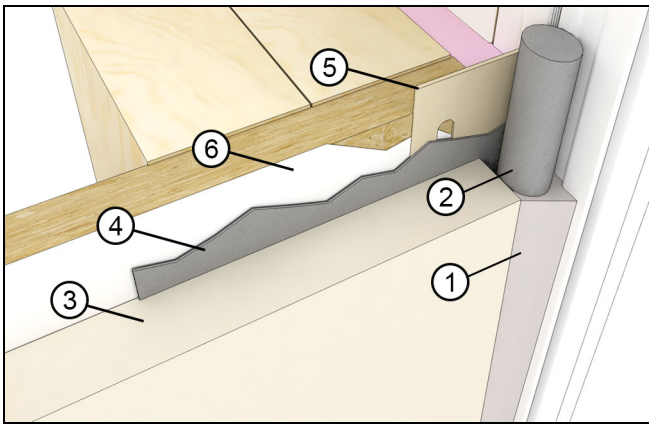
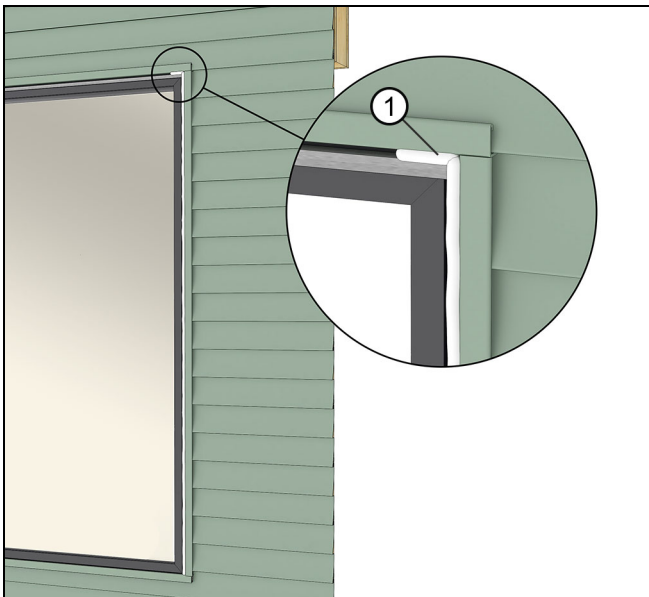

Figure 71
Figure 72
3. At the exterior, once the exterior finish such as siding or brick veneer is installed, apply a bead of sealant between the finish and the frame exterior along the sides. Apply additional beads approximately 1"-2" (25-51) at the ends on top of the head jamb flashing. Use a backer rod when necessary. See Figure 71 and Figure 72.